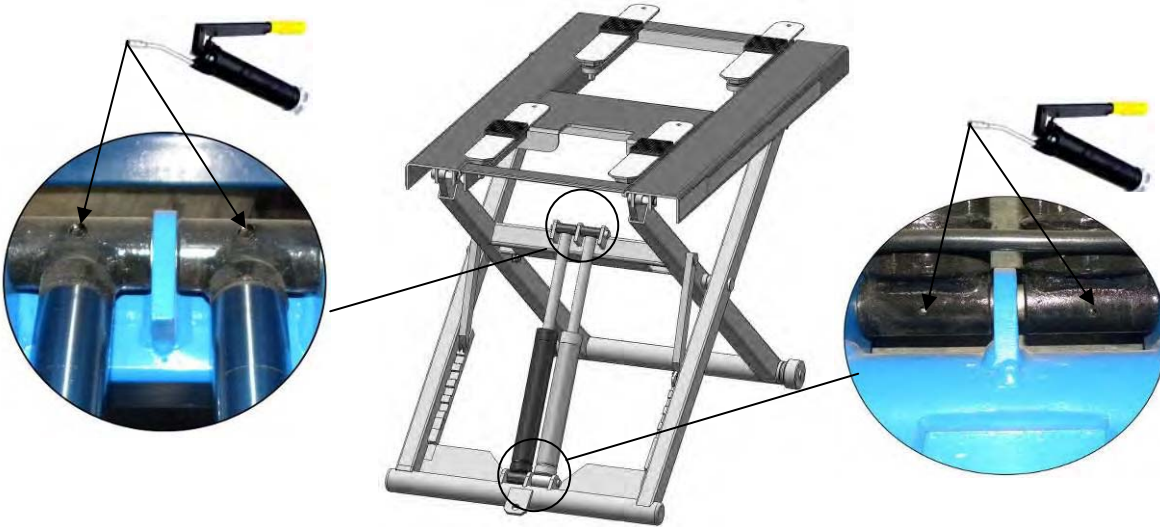

Fig. 20
1. Lubricate all moving parts with lubricant (**See Fig.20**).